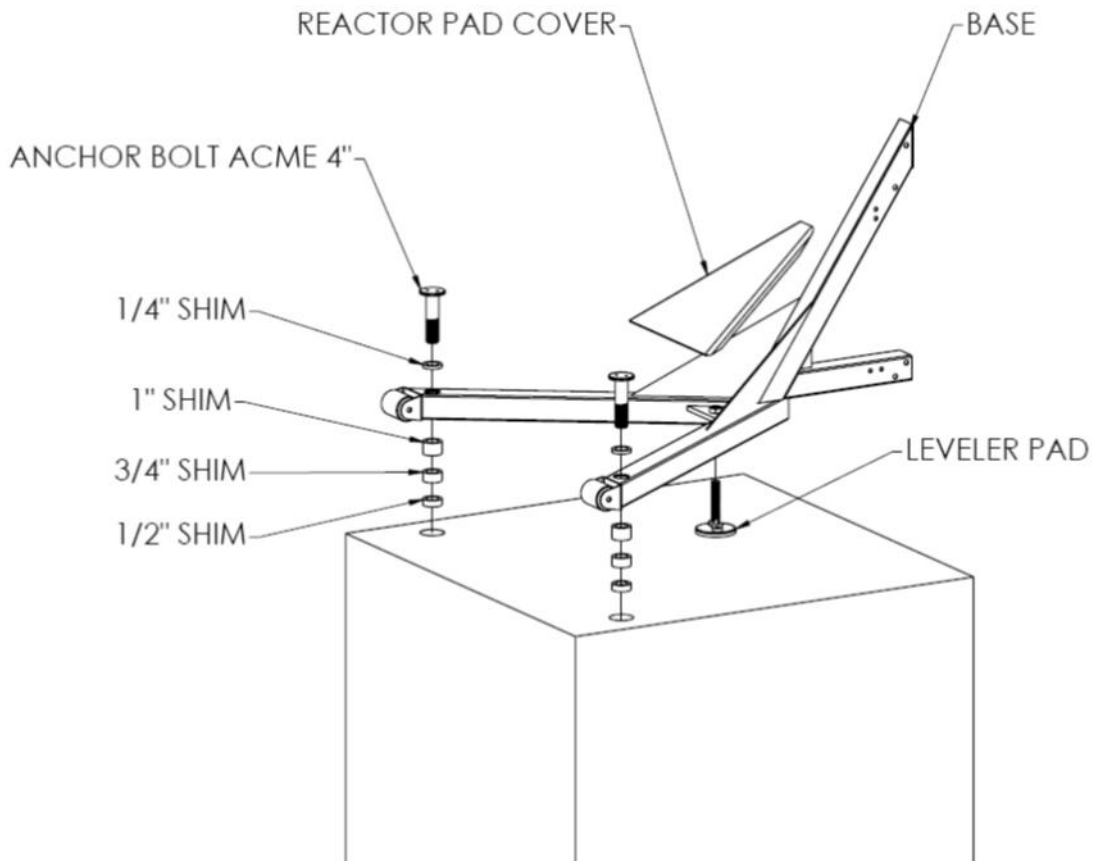

Figure 4
2. Use a 1-1/2" diameter concrete core drill to drill out the anchor holes to a depth of 2-3/16" as shown in Figure 4. Clean all of the debris from the holes. Check to see that the bottom of each hole is in solid concrete. The anchors will only hold if the surrounding concrete is solid. The top of the anchor should be 1/4" below the deck surface. The anchors can be installed deeper, if necessary, to mount to sufficiently solid concrete.
5. Screw the Leveler Pad into the Base assembly as shown in Figure 4, flush with the bottom of the Base stand until further adjustment.
6. Bolt the lift to the anchors in the deck using two 1" by 4" acme bolts as shown in Figure 4. **Do not completely tighten the 1" diameter acme bolts at this time.**
10. Level the lift front to back, if necessary, by using donut shims between the base stand and each anchor, and adjusting the Leveler Pad by screwing the Pad in or out. The donut shims can be used individually or in combination to level the lift. The donut shims can be used above the anchor base or below as shown in Figure 4 to prevent the acme bolts from bottoming out in the anchors.
12. Install Cover on lift as shown in Figure 4.